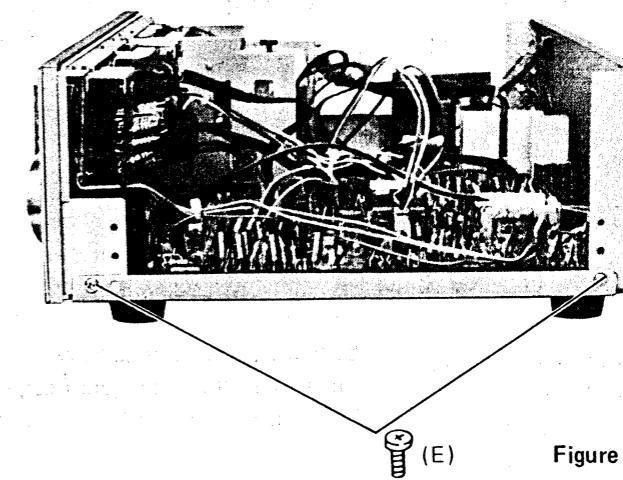

Figure 17
- 3 Remove two screws (E) from side of the unit. (See Figure 17)